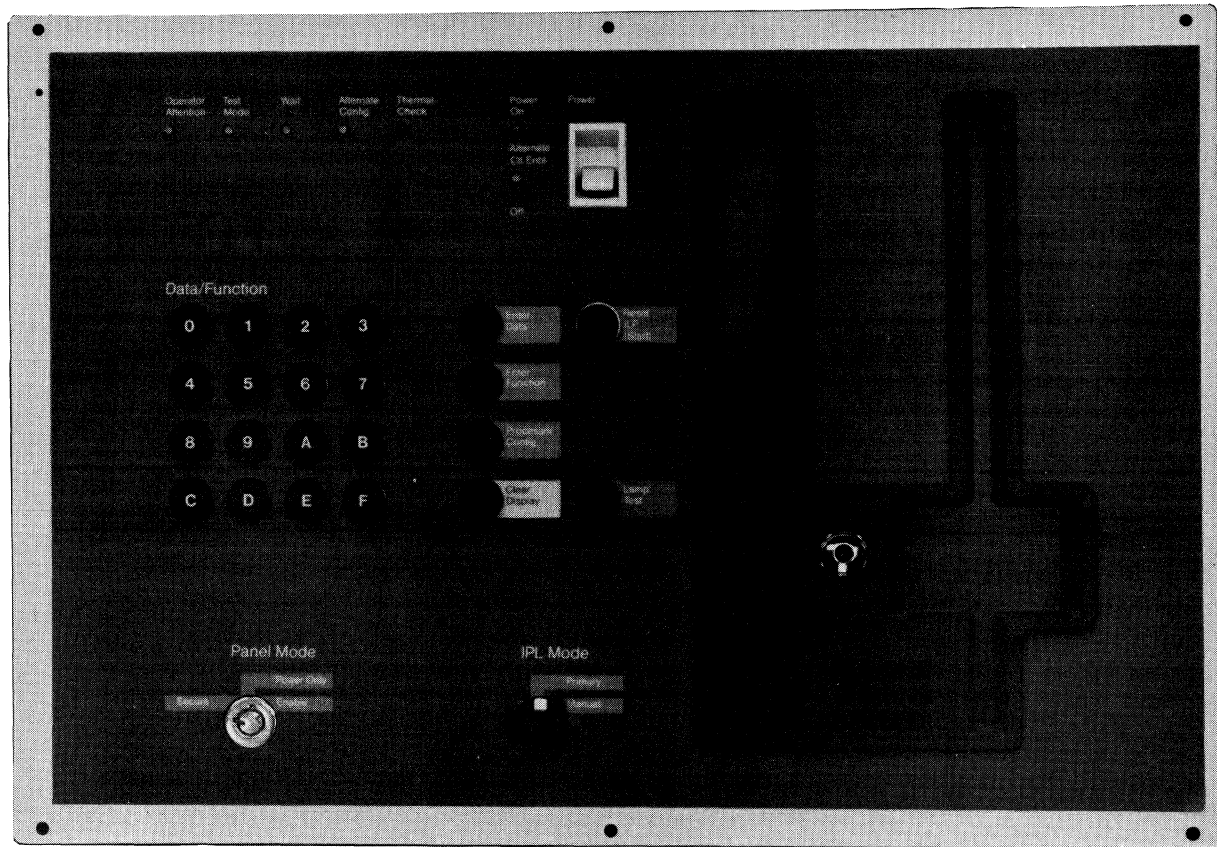

Figure 8-5. 8150 Operator Panel
- 8150 operator panel (Figure 8-5)